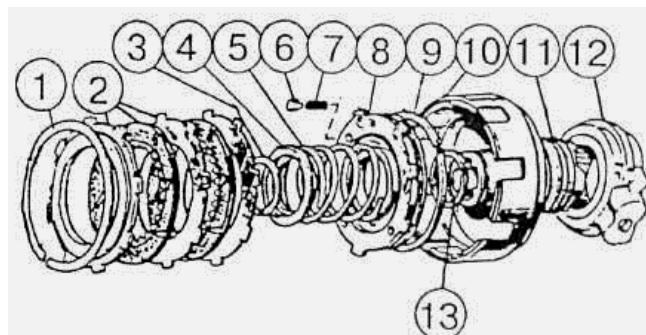

Figure 5.11
12) remove locking ring (1), (figure 5.11), and pull out of drum (10) a stack of friction disks (9), guides (6) and springs (7);
13) remove locking ring (3), cup (4) and spring 5;
14) dismount piston (8) with sealing ring (9), pull out of drum (10) shell (12) and sealing rings 11, 13.